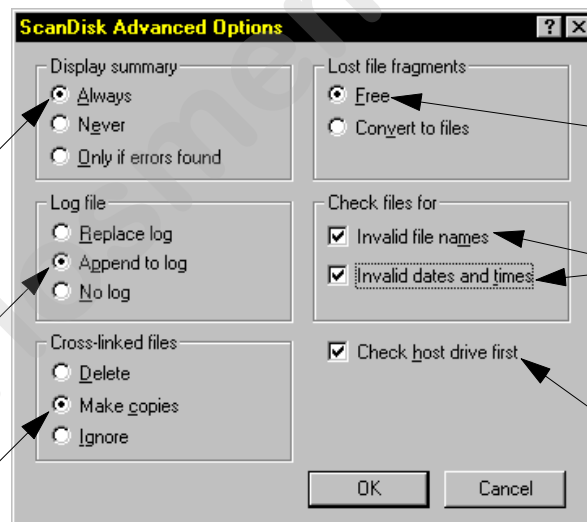

Figure A.26 Advanced Options Dialogue Box
6. Select the options indicated in Figure A.26 and click the **OK** button to accept the changes and dismiss the dialogue box.